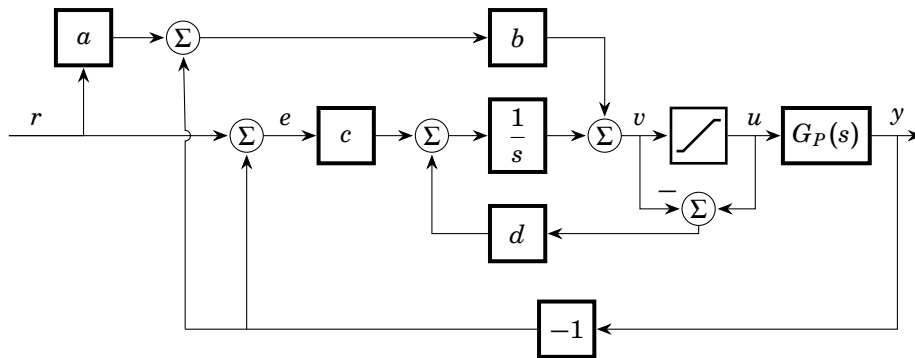

Figure 1 The control structure in Problem 7.
7. Consider the block diagram in Figure 1. It shows a very common control structure with some practical extensions.
- What control structure is shown in Figure 1? Explain the roles of the design parameters a, b, c, d . (1 p)
- Write pseudo-code that implements the control structure shown in Figure 1. Discretize the control algorithm (using e.g. forward difference) with sample period h and keep the same notation a, b, c, d for the design parameters. Assume that the measurement signal y is available from `getY()`, reference r from `getR()`, control signal u is set using `setU(u)` and saturated between u_{\min} and u_{\max} . For full points the code should be written such that the input-output latency is minimized.